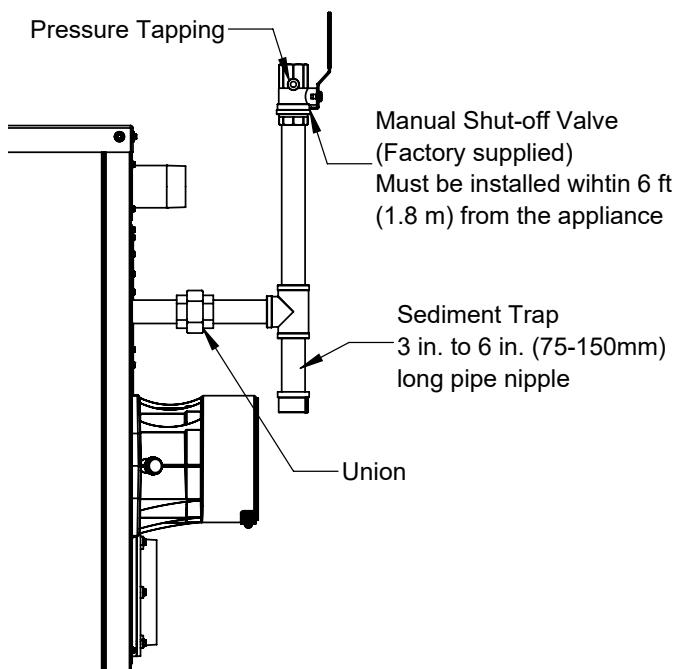

Figure 23: Field Installed Gas Connection
1. A manual shutoff valve is shipped loose with the appliance and should be installed as shown in Figure 23 with a sediment trap.